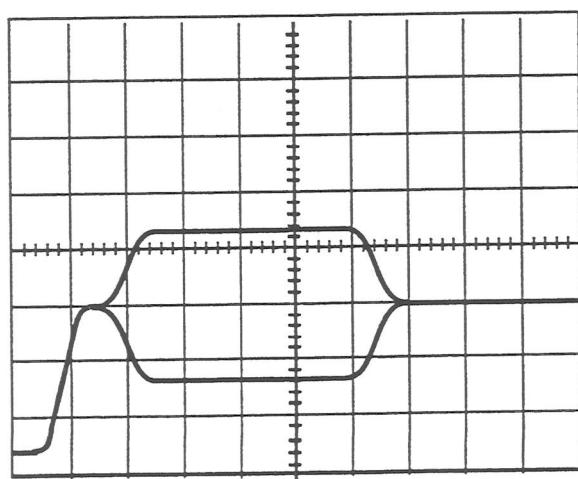

figure 15
- Reduce the sweep speed again (18) to 0.5 µs/div. The burst now spans the entire screen and can be examined in detail (figure 15). Note that the sweep start position is unchanged with respect to the signal. It can be tuned even further using the DELAY control (25).